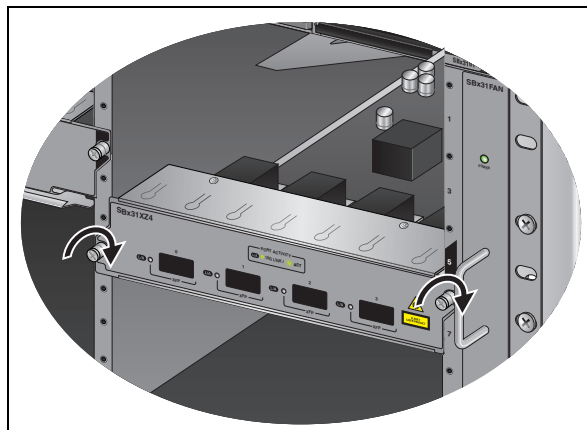

Figure 51. Tightening Thumb Screws on the AT-SBx31XZ4 XFP Line Card
5. Finger tighten the two thumbscrews on each side of the line card as displayed in Figure 51 to attach it to the chassis.